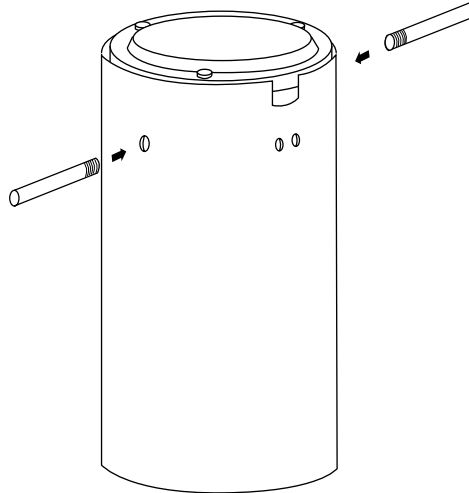

Fig. 4.1 Fitting the lifting handles
- 1) Fit the lifting handles into the tapped holes on each side of the outer cylinder of the support – see Fig. 4.1.